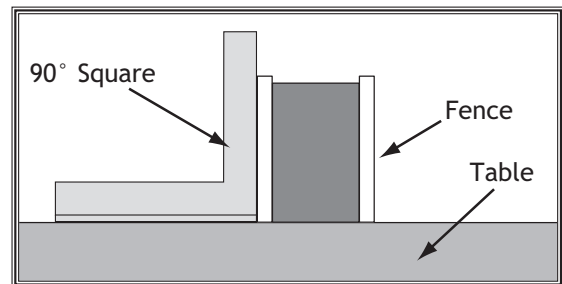

Figure 103. Checking if fence is square to table.
2. Place a square on the table against the face of the fence (see **Figure 103**) to check if the fence is square to the table.